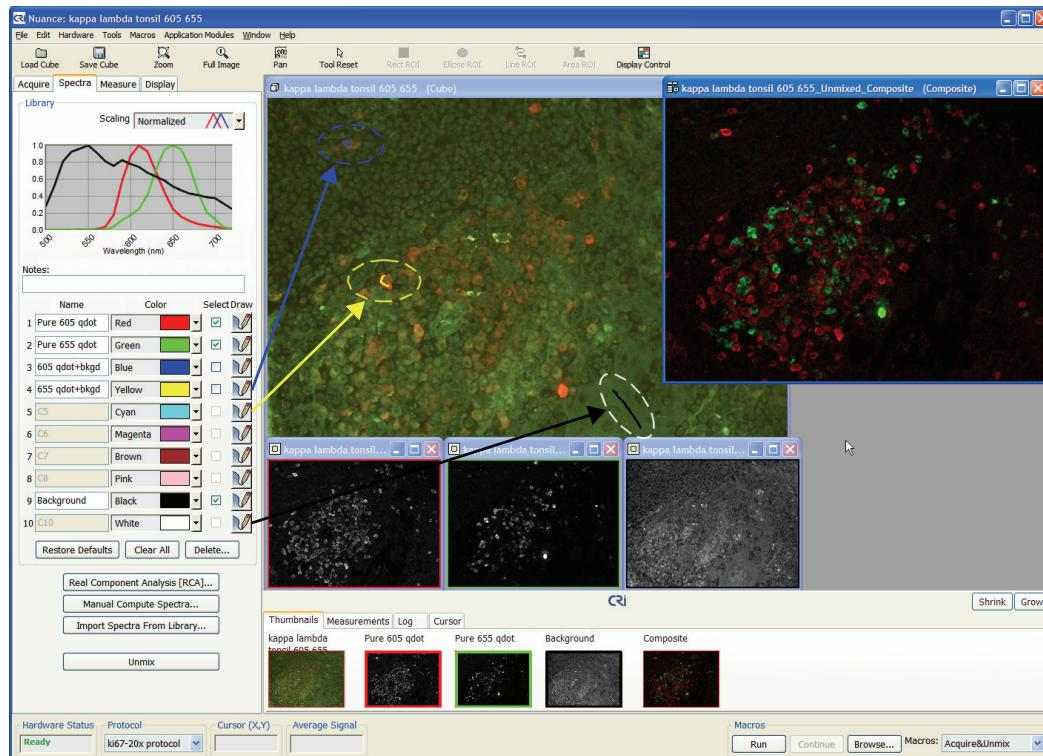

Figure 14. Autofluorescence and Label Spectra from a Fluorescent Sample
- Obtain the autofluorescence signal of the tissue background from an area of pure autofluorescence (black spectrum, Label #9 in Figure 14).
- Obtain the mixed 605 nm quantum dot fluorescence plus autofluorescence from cells that have both spectra (blue spectrum, Label #3 in Figure 14).
- Obtain the mixed 655 nm quantum dot fluorescence plus autofluorescence from cells that have both spectra (yellow spectrum, Label #4 in Figure 14).
- In this example (Figure 14), the pure fluorescence signals are named “Pure 605 qdot” and “Pure 655 qdot.”
- When computing pure spectra, observe the plots of the spectral curves in the Spectral Graph. Each plot should have a uniform Gaussian curve similar to that shown in Figure 14.